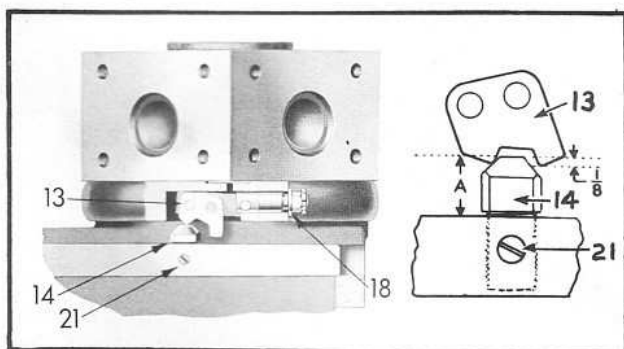

FIG. 40 Turret Binder Mechanism FIG. 41 Stud Adjustment
2. At the same time the turret binder ring has been released, because toggle (13), Fig. 40 has been swung to the unlatched position by its passing over stud (14) on the rear top cap.
7. Now adjust nut (18), Fig. 40, so that it is possible to just barely rotate the turret when pulling steadily and firmly with one hand on the bar projecting from the turret hole. (See item (3) in left column).
8. Lock this adjustment with cotter pin through castellated nut (18) Fig. 40.
2. On the other hand, if binder ring is not clamped tightly enough there is no strain on the toggle when the turret is working and vibration will cause the toggle to fall down to its loose position. This also can cause ring breakage, because the toggle will then bump into stud (14), Fig. 40, on its return stroke instead of rocking over it.